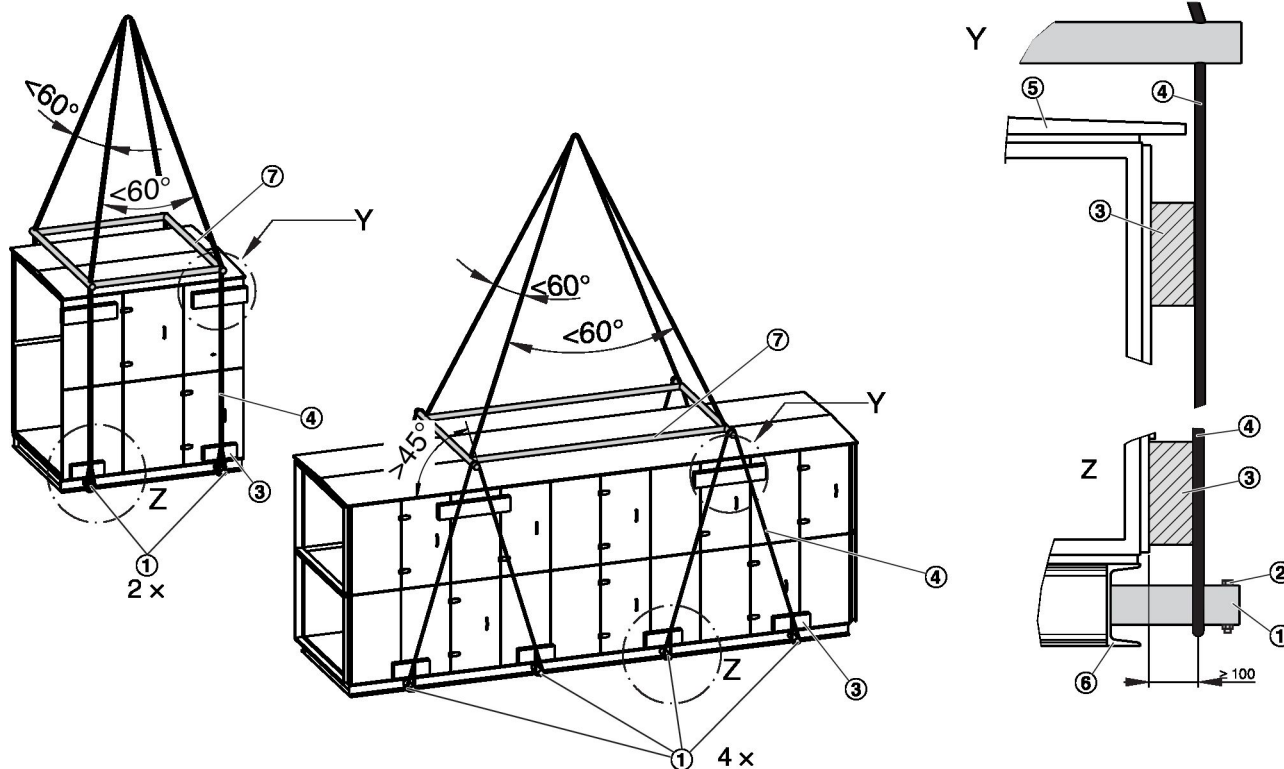

Fig. 5: Lashing points with two or four transport tubes
The number of drilled holes in the base frame ( Fig. 5 /6) indicates the number of transport tubes ( Fig. 5 /1) to be used.
- Select the lashing points based on the number of transport tubes you use, Fig. 5
1. ▶ Remove the plugs from the drilled holes in the base frame ( Fig. 5 /6) of the AHU casing unit.
2. ▶ Push transport tubes ( Fig. 5 /1) through the drilled holes in the base frame.
Secure the transport tubes with screws ( Fig. 5 /2).
3. ▶ Place the slings ( Fig. 5 /4) around the ends of the transport tubes.
Position slings between the base frame ( Fig. 5 /6) and the screws ( Fig. 5 /2).
Protect the edges with wood blocks ( Fig. 5 /3). If a unit with a roof ( Fig. 5 /5) is to be moved, use wood blocks that are thick enough to provide a distance of 100 mm between the sling and the casing unit.
Spread the slings near the roof with a suitable device ( Fig. 5 /7), e.g. a spreader beam.